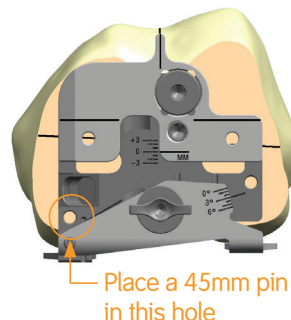

Figure 23
2. Place the (left or right) JOURNEY® II DCF Sizing Guide on the resected distal femur. With the medial paddle contacting the posterior medial condyle and the sizing guide flush to the distal resection, place a 45mm headed pin through the hole just above the medial paddle (Figure 23). This will secure the sizing guide for the remainder of its use.